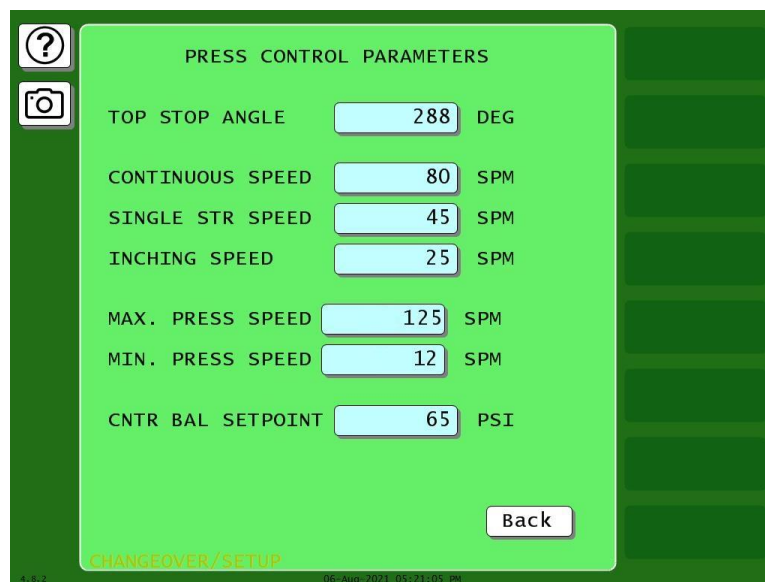
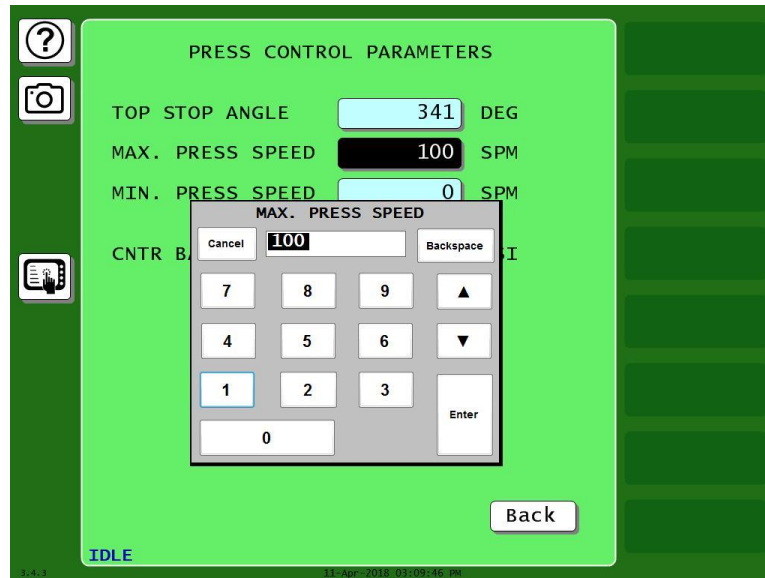

Figure 4-4. Press Control Parameters Screen
Figure 4-6. Change Maximum Press Speed
1. In the Press Control Parameters screen (Figure 4-4), press the entry box next to TOP STOP ANGLE. A numeric entry window appears.
1. In the Press Control Parameters screen (Figure 4-4), press the entry box next to CONTINUOUS SPEED. A numeric entry window appears.
1. In the Press Control Parameters screen (Figure 4-4), press the entry box next to MAX. PRESS SPEED. A numeric entry window appears, Figure 4-6.
1. In the Press Control Parameters screen (Figure 4-4), press the entry box next to CNTR BAL SETPOINT. A numeric entry window appears.